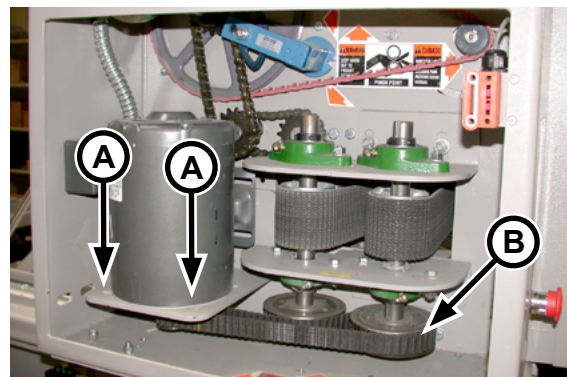

Figure 7-9: The bolts holding the lower spreader belt drive motor are in slotted holes.
3. Tension on the belt is adjusted by moving the spreader belt drive motor (Figure 7-9, A) in its slotted mounting holes:
4. Carefully note the path of the old belt (Figure 7-9, B) before removing it.